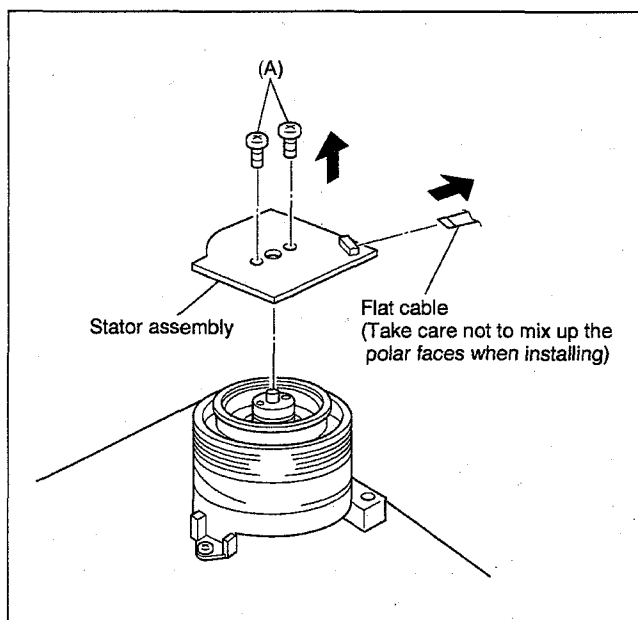

Fig. 2-2-36
- (1) Remove the stator assembly and rotor assembly. (See Fig. 2-2-36 and 2-2-37)
- (2) Loosen the screw of the collar assembly using a 1.5 mm hexagonal wrench and remove the collar assembly. Also remove the brush, spring and cap at one time.
- (3) Remove the upper drum assembly and remove the washer using tweezers.
- (5) After installation, gently turn the upper drum with your hand to make sure that it turns normally.
- (6) Install the rotor assembly and stator assembly according to Fig 2-2-36 and 2-2-38.
- (7) When installation is complete, clean the upper drum assembly and lower the drum assembly and carry out the following adjustments.